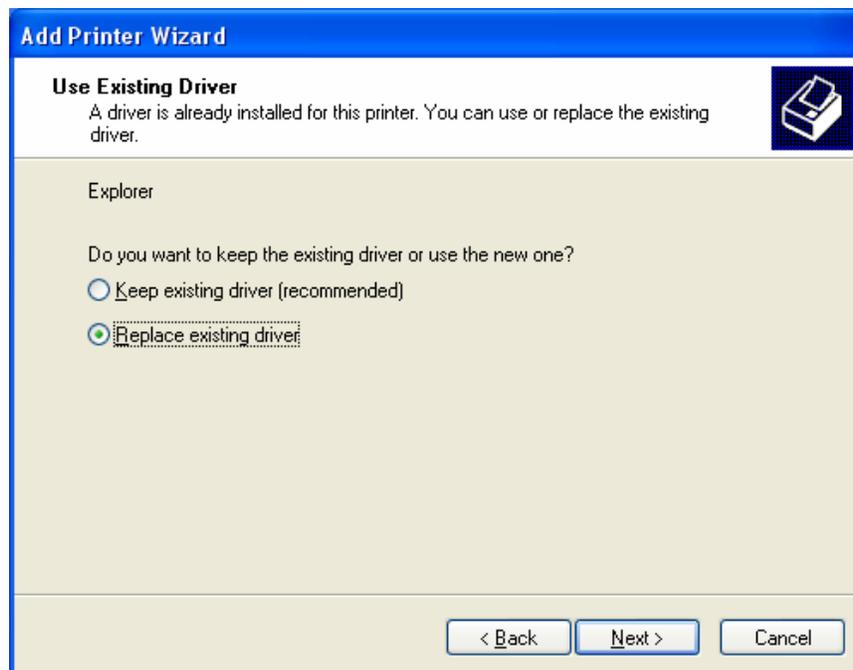

Fig. 4-10 Print Driver Installation
STEP 11: Select **Replace existing driver** and click **NEXT STEP** (see fig. 4-10)